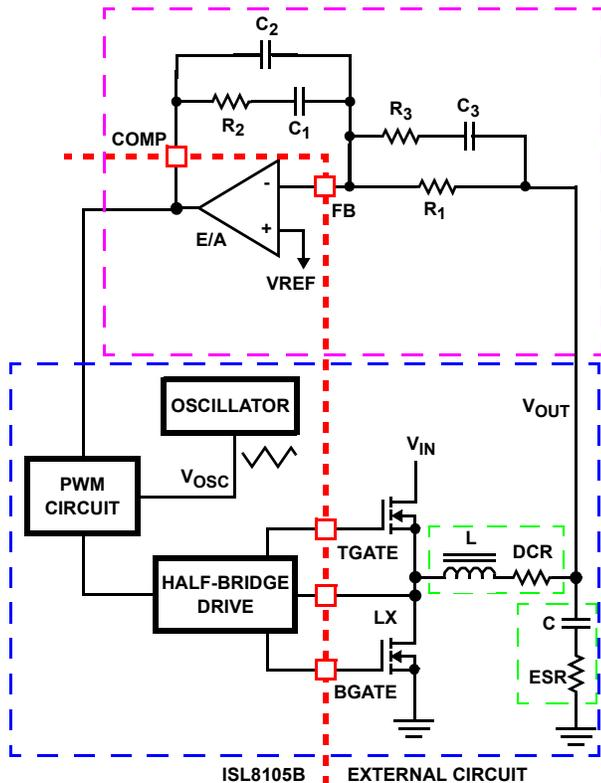

FIGURE 9. VOLTAGE-MODE BUCK CONVERTER COMPENSATION DESIGN
This section highlights the design considerations for a voltage-mode controller requiring external compensation. To address a broad range of applications, a type-3 feedback network is recommended (see Figure 9).
Figure 9 highlights the voltage-mode control loop for a synchronous-rectified buck converter, applicable to the ISL805B circuit. The output voltage (V_{OUT}) is regulated to the reference voltage, V_{REF} , level. The error amplifier output (COMP pin voltage) is compared with the oscillator (OSC) triangle wave to provide a pulse-width modulated wave with an amplitude of V_{IN} at the LX node. The PWM wave is smoothed by the output filter (L and C). The output filter capacitor bank's equivalent series resistance is represented by the series resistor ESR.
The compensation network consists of the error amplifier (internal to the ISL8105B) and the external R_1 to R_3 , C_1 to C_3 components. The goal of the compensation network is to provide a closed loop transfer function with high 0dB crossing frequency (F_0 ; typically 0.1 to 0.3 of f_{SW}) and adequate phase margin (better than $+45^\circ$). Phase margin is the difference between the closed loop phase at F_{0dB} and $+180^\circ$. The equations that follow relate the compensation network's poles, zeros and gain to the components (R_1 , R_2 , R_3 , C_1 , C_2 , and C_3) in Figure 9. Use the following guidelines for locating the poles and zeros of the compensation network:
1. Select a value for R_1 (1k Ω to 10k Ω , typically). Calculate value for R_2 for desired converter bandwidth (F_0). If setting the output voltage to be equal to the reference set voltage as shown in Figure 9, the design procedure is shown in Equation 5.